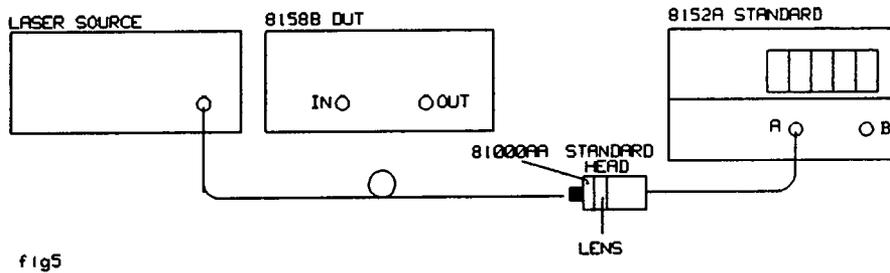

Figure 4-1. Test Setup for Reference Measurement
- Connect the equipment as shown in Figure 4-1